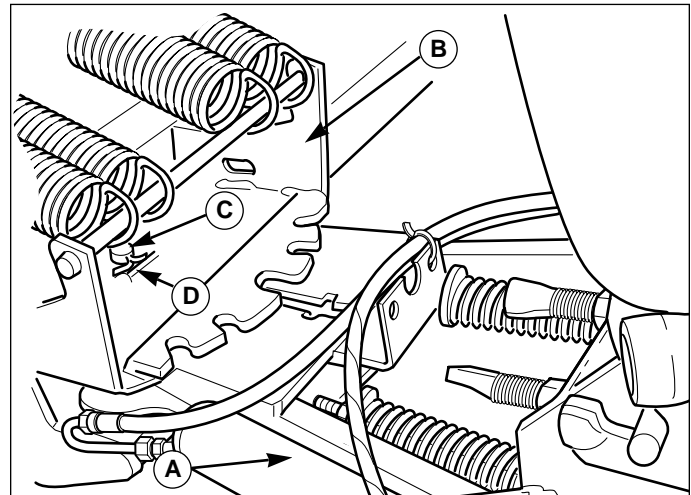

Figure 6. Assemble Dozer Blade
1. Slide the dozer blade assembly (B) and hitch pivot assembly (A) together as shown in Figure 6.
2. Install the pivot pin (C) and secure with a cotter pin (D) at both ends.